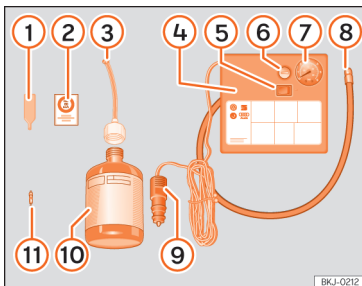

Fig. 245 Standard display: contents of the anti-puncture kit.
The anti-puncture kit is located underneath the floor covering in the luggage compartment. Includes the following components >>> Fig. 245:
- Unscrew the tyre valve cap and insert. Use the device >>> Fig. 245 ① to remove the valve cap. Place it on a clean surface.
- Shake the tyre sealant bottle vigorously >>> Fig. 245 ⑩.
- Screw the tyre inflation hose >>> Fig. 245 ③ into the tyre sealant bottle. The bottle's seal will break automatically.
- Remove the filler cap >>> Fig. 245 ③ and screw the open end of the tube into the tyre valve.
- Replace the howitzer with the device >>> Fig. 245 ① onto the tyre valve.
- Screw the tyre inflation tube of the compressor >>> Fig. 245 ⑧ on the tyre valve.
- Check that the air evacuation screw is closed >>> Fig. 245 ⑥.
- Attach the connector >>> Fig. 245 ⑨ to the vehicle's 12 volt power outlet >>> page 231.
- Switch on the air compressor with ON/OFF switch >>> Fig. 245 ⑤.
- Attach the sticker >>> Fig. 245 (2) to the instrument panel display, within the driver's field of vision.
Screw in the inflator tube >>> Fig. 245 (8) again and check the pressure on the gauge (7).